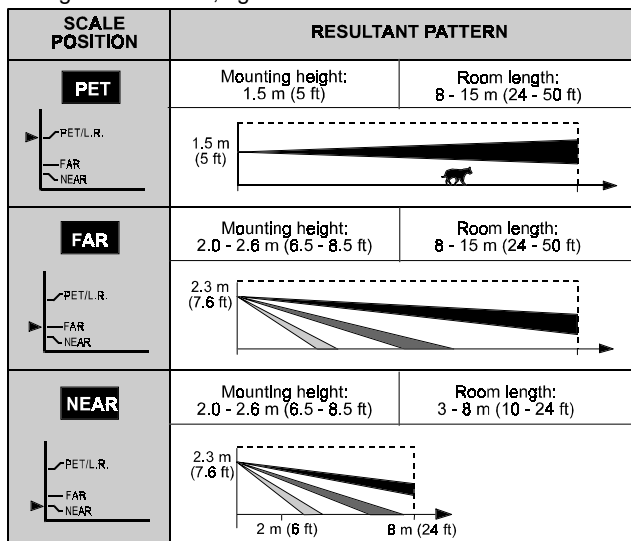

Figure 15. Vertical Adjustment
- 2. With the detector tilted down, the side view patterns shown in Figure 15 do not apply. The actual coverage must be tested very carefully.
Refer to Figure 15. Slacken the vertical adjustment screw and slide the printed circuit board up or down to obtain the desired coverage. When done, tighten the screw well.